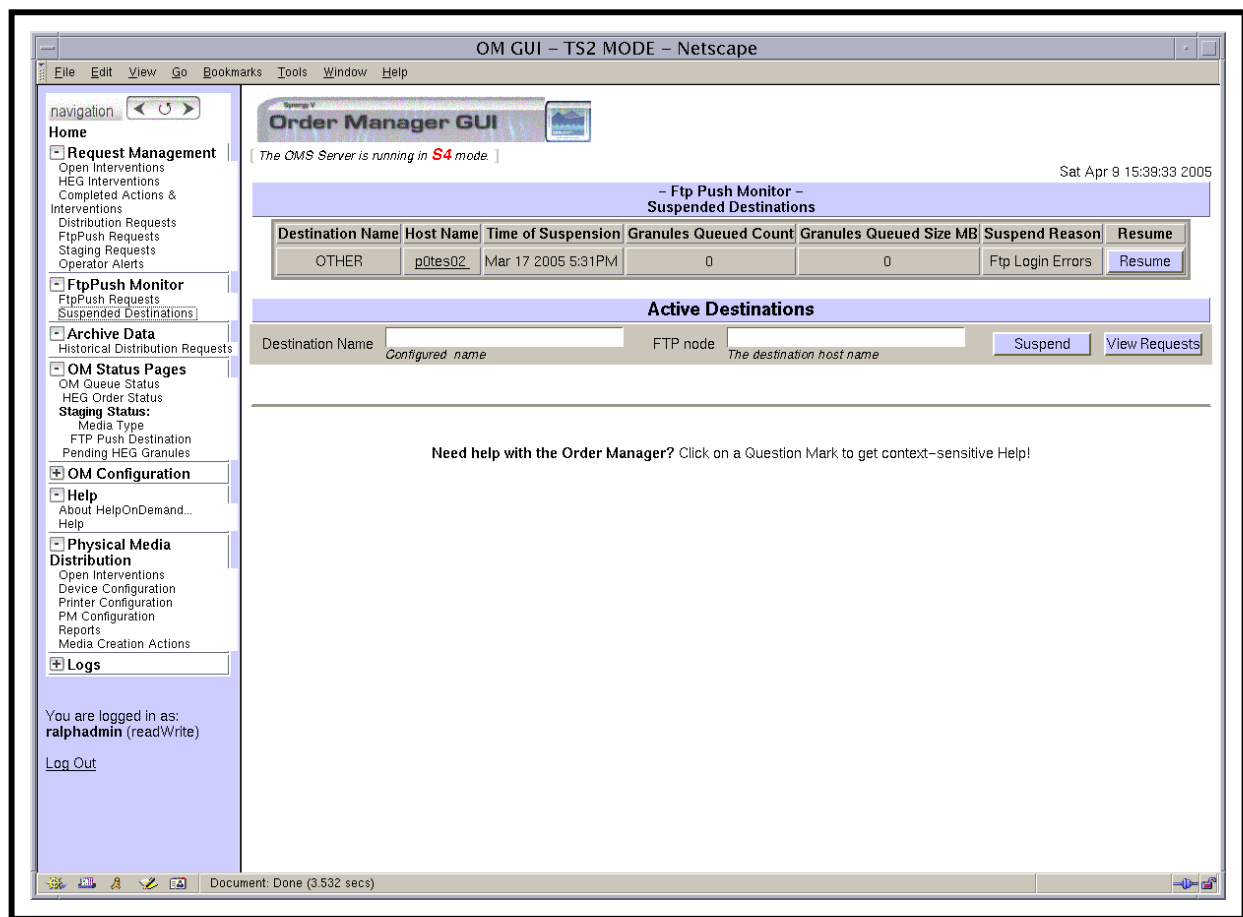

Figure 54. Suspended Destinations Page
The **Suspended Destinations** page (Figure 54) provides the full-capability operator with a means of viewing suspended FTP push destinations and a means of taking the following kinds of actions with respect to suspended FTP push destinations:
- 2 If the **Suspended Destinations** page (Figure 54) is not already being displayed, click on the **Suspended Destinations** link in the navigation frame of the **OM GUI**.
- The **Suspended Destinations** page (Figure 54) is displayed.